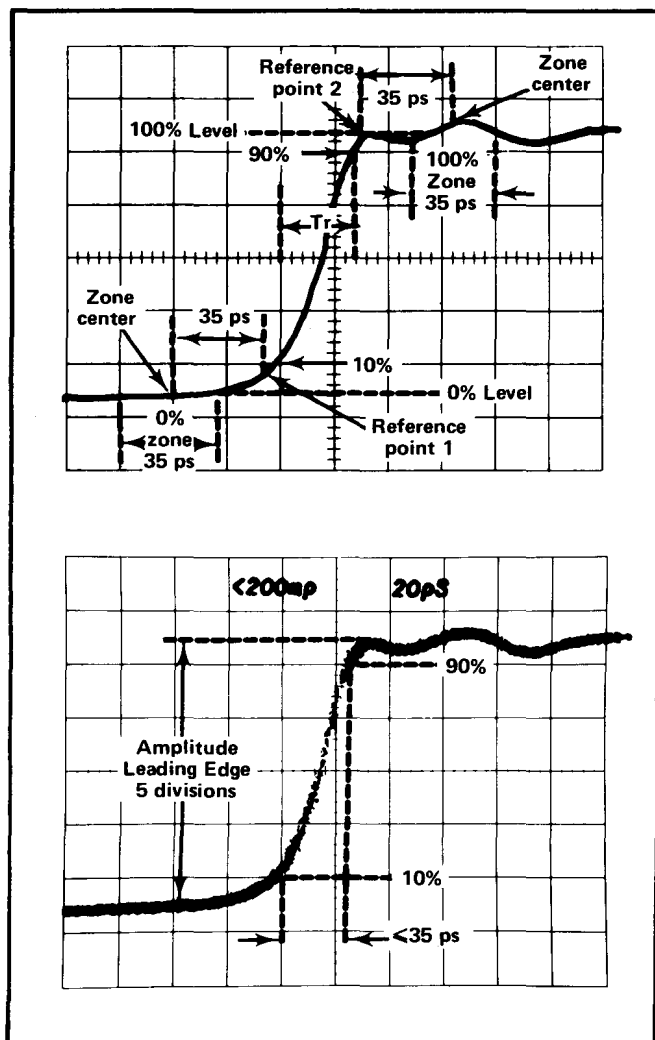

Fig. 5-7. Incident pulse risetime of the S-6, S-52 and 7S12 system.
1. Find the knee reference point at the start (end) of the step where the rate of change of the slope is maximum (the radius of curvature is least). See Fig. 5-7 for this waveform.